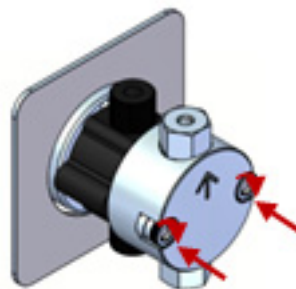

Figure 6-17 Reinstalling the fasteners
16. Reinstall fasteners. As you tighten, alternate side-to-side until snug. Turn 1 flat past snug using a $\frac{3}{16}$ " hex key (Figure 6-17).